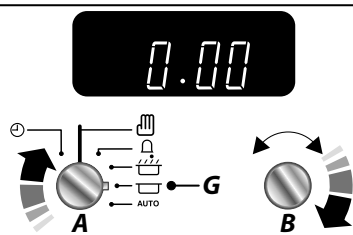

Fig. 2.27
3. Continue to turn the **Adjusting (B)** knob to the amount of time required e.g. 1 minute. The display will show the current time plus the required length of time you have set (**Fig. 2.27**).
4. Turn the **Timer (A)** knob to the **Auto (H)** setting (**Fig. 2.27**). The display will show the current time, the Cooking symbol and the word 'AUTO' (**Fig. 2.27**).